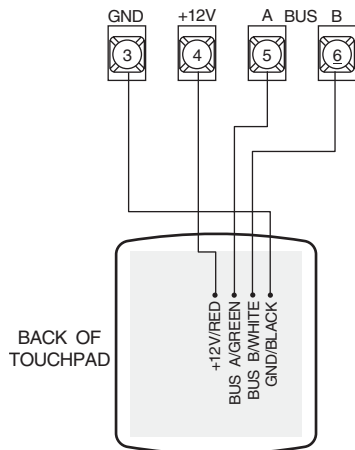

Figure 4. Wiring Touchpad to Panel Terminals
4. Connect the touchpad wiring to the panel terminals as shown in Figure 4.